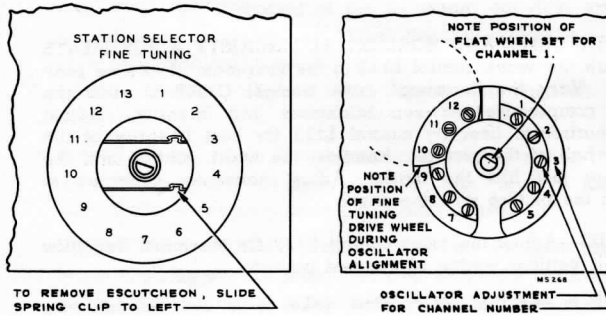

Figure 8—R-F Oscillator Adjustments
**CHECK OF R-F OSCILLATOR ADJUSTMENTS**—With a crystal calibrated test oscillator or heterodyne frequency meter, check to see if the receiver r-f oscillator is adjusted to the proper frequency on all channels. If adjustments are required, these should be made by the method outlined in the alignment procedure on page 10 of the Service Data for Model 721TS. The adjustments for channels 1 through 5 and 7 through 12 are available from the front of the cabinet by removing the station selector escutcheon as shown in Figure 8. Adjustments for channels 6 and 13 are under the chassis.